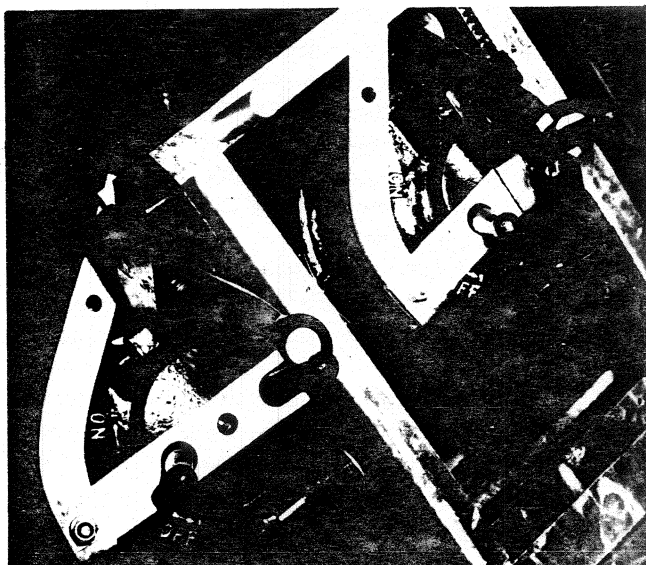

Fig. 23
1. Mount the cutouts and expansion chambers on the rack as shown in Fig. 23. It is necessary to temporarily remove the fuse carrier to assemble the expansion chamber.
3. Slide the lever arms over the horns on the fuse carriers, Fig. 23.